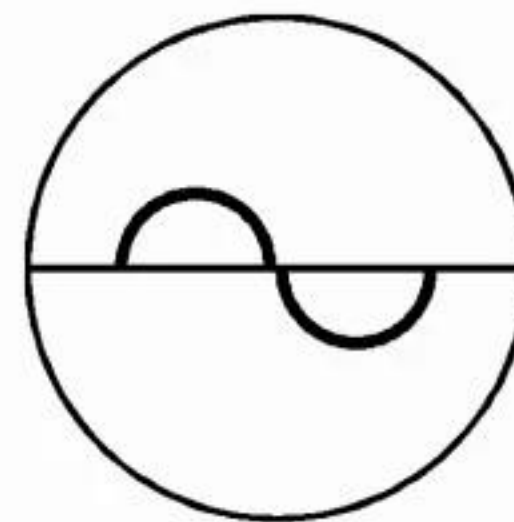

Fig. 11
- I. If fluorescence rings connect along the outside border, pressure should be increased (Fig. 11).